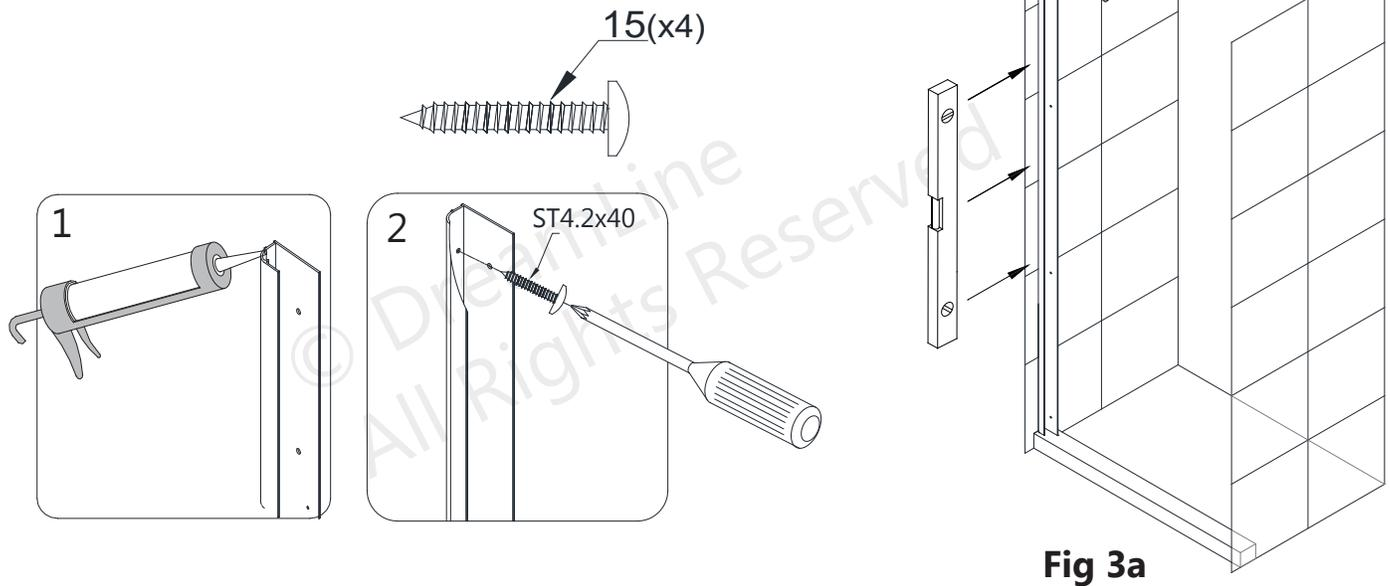

Fig 3a
3. Apply silicone to the back of the **Wall Profile (hinge side) (#01)**. Attach the **Wall Profile (hinge side) (#01)** to the wall using the **ST4.2x 40 Truss Head Screws (#15)**. (**Fig 3a**)